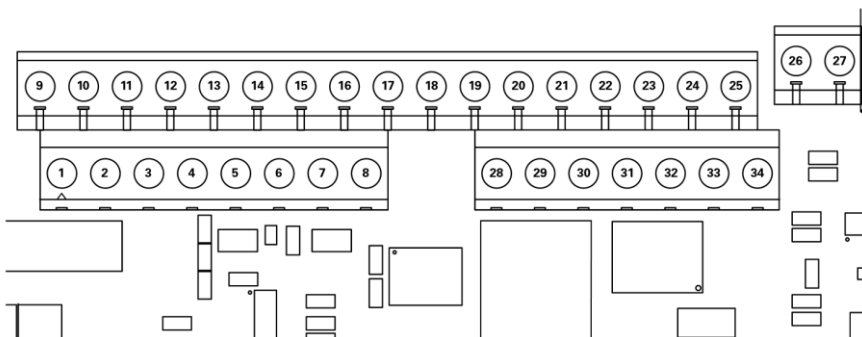

Figure 8: Terminal Assignments
3. Remove the nut from the unused compression fitting on the back of the fluids block, and slide it over the end of one of the pieces of plastic tubing. Leave about one inch of tubing protruding from the end of the nut, as shown in Figure 8.
5. Remove the nut from the unused compression fitting on the back of the flow cell, and slide it over the end of the other piece of plastic tubing. Leave about one inch of tubing protruding from the end of the nut, as shown in Figure 8.
7. Remove the larger nut from one of the union compression fitting, and slide it over the end of one of the rigid tubing outlets on the lid of the refrigerated bath. Leave about one inch of tubing protruding from the end of the nut, as shown in Figure 8.
11. Push the free end of the foam insulation back, exposing about two inches of plastic tubing. Remove the smaller nut from one of the union compression fitting on the lid, and slide it over the end of the exposed plastic tubing. Leave about one inch of tubing protruding from the end of the nut, as shown in Figure 8.
13. Remove the smaller nut from the unused compression fitting on the lid, and slide it over the free end of the other length of plastic tubing. Leave about one inch of tubing protruding from the end of the nut, as shown in Figure 8.
3. Follow the terminal assignments shown in Figure 8 for the proper electrode cable wiring location.